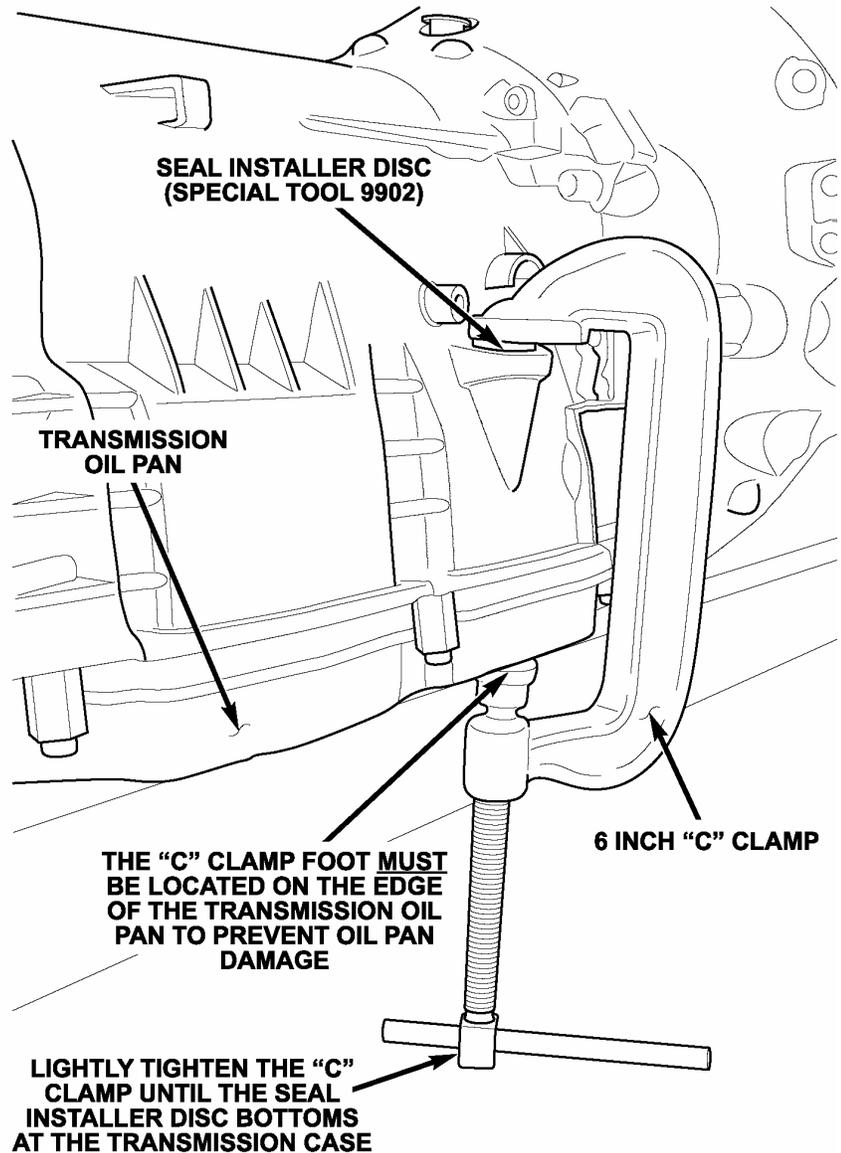

Figure 20
- Seat the new fill tube oil seal using the seal installer disc (Special Tool 9902) and a 6 inch “C” clamp (Figure 20).